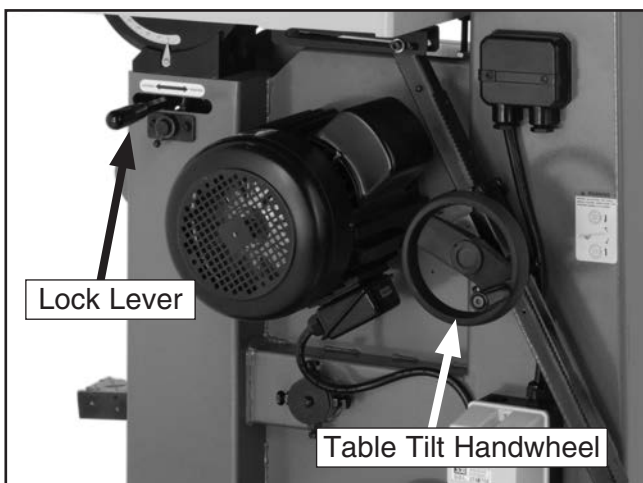

Figure 60. Table tilt controls.
2. Loosen the table tilt lock lever shown in **Figure 60**.
3. To tilt the table to the right, turn the table tilt handwheel clockwise (see **Figure 60**).